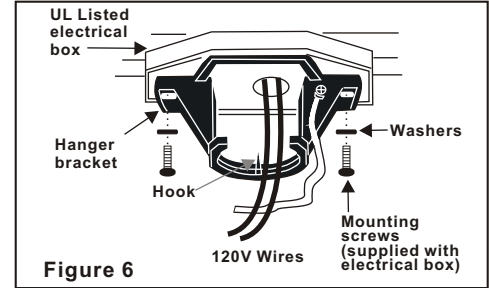

Figure 6
**Step 3.** Pass the 120-volt supply wires through the center hole in the ceiling hanger bracket.(Fig. 6)